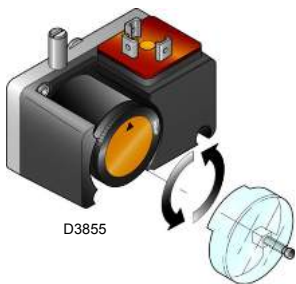

Fig. 22
- Adjust the minimum gas pressure switch (Fig. 22) to the start of the scale.